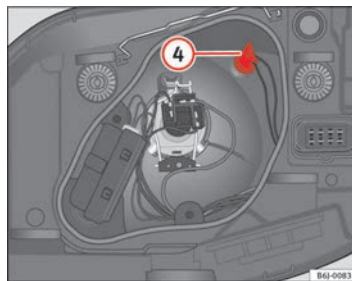

Fig. 152 Side lights
- Remove the bulb holder ④ ⇒ page 226, fig. 152 outwards.